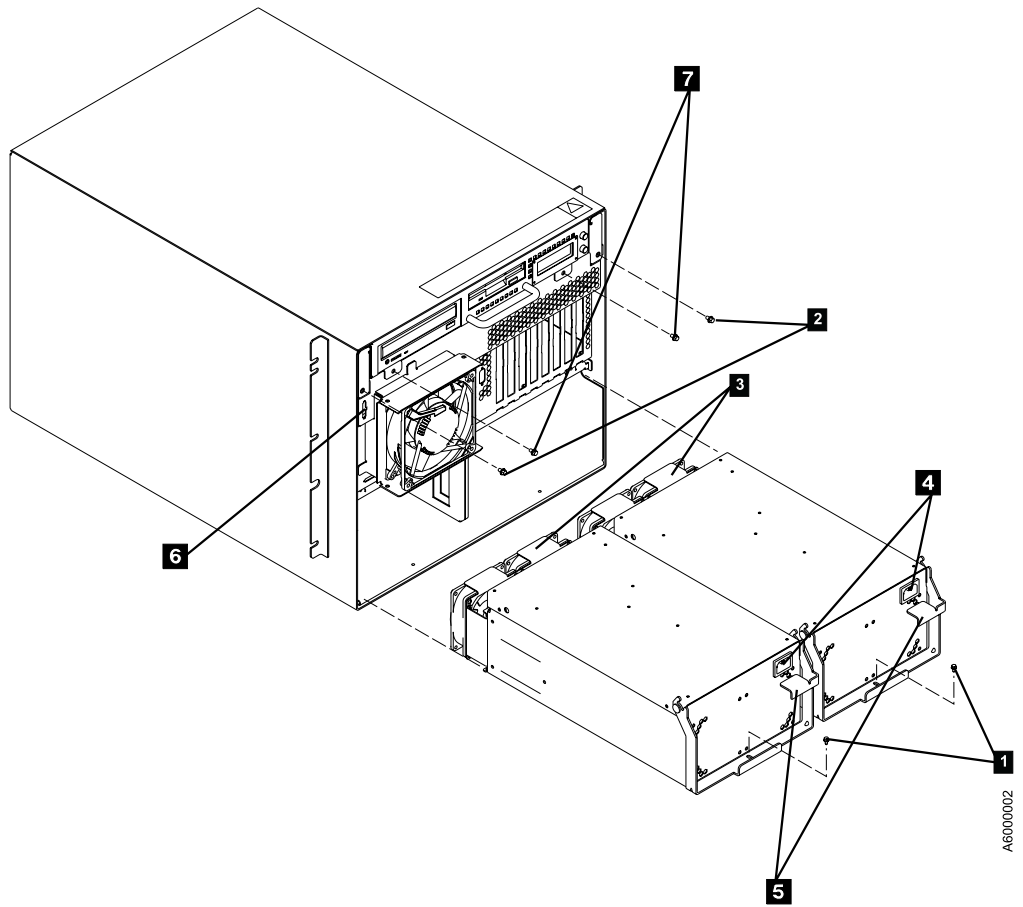

Figure 84. A60 Controller Rear View
- \_\_\_ Step 3. Remove two chassis housing screws, refer to Figure 84 on page 324 **2**
- \_\_\_ Step 4. Unplug the two power cords from the power supply connectors (power supply end). Refer to Figure 84 on page 324 **4**
- \_\_\_ Step 1. Slide new Optical Disk Drive assembly to the front of the chassis until it is in position, refer to Figure 84 on page 324 **7**
- \_\_\_ Step 5. Replace the two chassis housing screws, refer to Figure 84 on page 324 **2**
- \_\_\_ Step 6. Plug the power supply cords back into the power supplies. Refer to Figure 84 on page 324 **4**